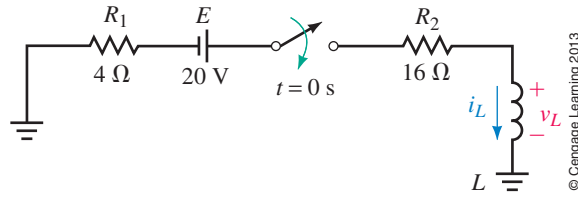

FIGURE 14-41
7. Repeat Problem 5 for the circuit of Figure 14-41 with $L = 4$ H.
32. For Figure 14-41, let $L = 4$ H. Solve for v_L and i_L . Using the cursor, measure values at $t = 200$ ms and 500 ms. (Multisim users: You may have to create a separate vertical axis for the current waveform.)